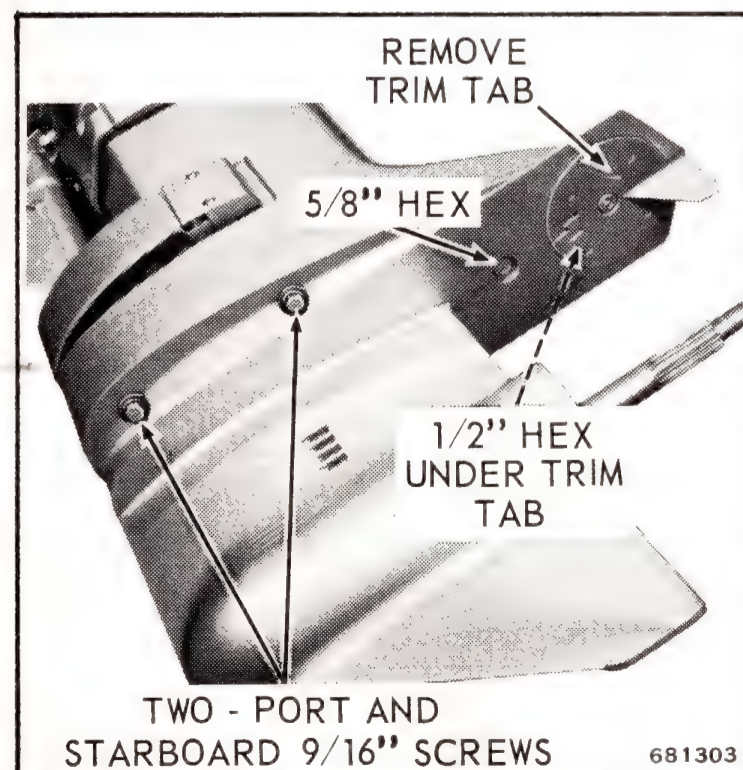

Figure 6-9. Gearcase Screws
- e. Scribe mark on gearcase and adjustable trim tab so it can be reinstalled in the same position. Remove Allen screw and trim tab. See Figure 6-9.
- f. Using a 1/2 inch socket and short extension, remove screw from inside of trim tab cavity. See Figure 6-9.
- g. Using a 5/8 inch thinwall socket, remove countersunk screw. See Figure 6-9.
- h. Remove four 9/16" screws (2 each port and starboard). See Figure 6-9.